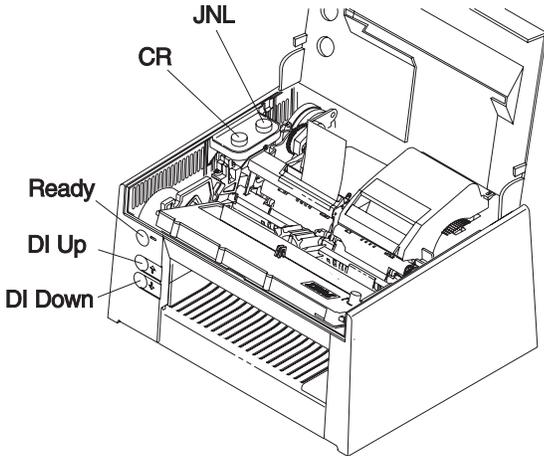

Figure 6-7. Printer Buttons
- Press and hold the Ready button. See Figure 6-7 on page 6-14.